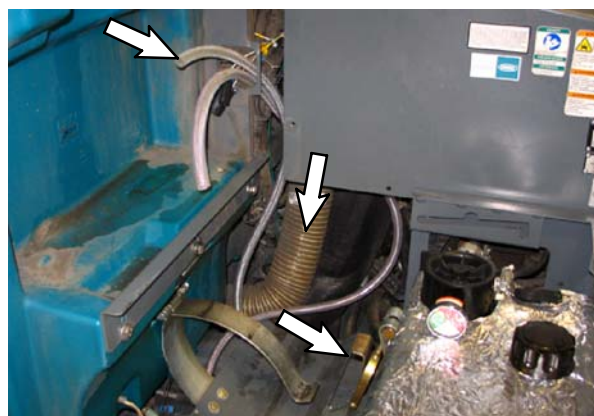

FIG. 8
20. Route the PVC hose (end with the y-fitting-if machine is equipped with optional side brush) from the operator compartment, down along the frame center beam, and to the scrub head. Refer to Fig. 8.